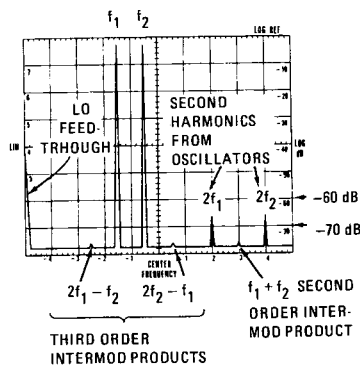

Figure 4-8. Intermodulation Distortion Products Display
10. Refer to Figure 4-8; the signals at 140 kHz ( $2f_1$ ) and 180 kHz ( $2f_2$ ) are oscillator second harmonics. Any second order intermodulation product (due to the analyzer) will occur at 160 kHz ( $f_1 + f_2$ ). Any third order intermodulation products will occur at 50 kHz ( $2f_1 - f_2$ ) and at 110 kHz ( $2f_2 - f_1$ ). The intermodulation products should all be below  $-70$  dB graticule line: